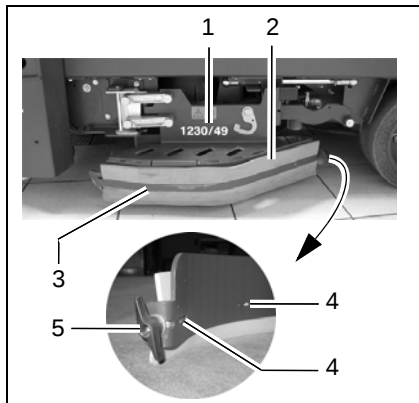

Fig. 37
The deflector (Fig. 37/1) must be fixed in its service position (refer to Section 2.3.1, Point 1).
1. Unscrew the wing nut (Fig. 37/5) at the end of the deflector.
2. Slide the clamping rail (Fig. 37/3) in the vehicle's driving direction (forwards) until the clamping rail hooks (Fig. 37/4) are freed and the clamping rail (Fig. 37/3) can be removed away from the vehicle.
3. Remove the old rubber deflector strips (Fig. 37/2).
4. Position the new rubber deflector strips (Fig. 37/2) in place.
5. Mount the clamping rail (Fig. 37/3) from the outside and slide back by hand so that the clamping rail hooks (Fig. 37/4) engage.
Screw the wing nut (Fig. 37/5) on the thread at the end of the clamping rail (Fig. 37/3), thus tightening the clamping rail (Fig. 37/3).